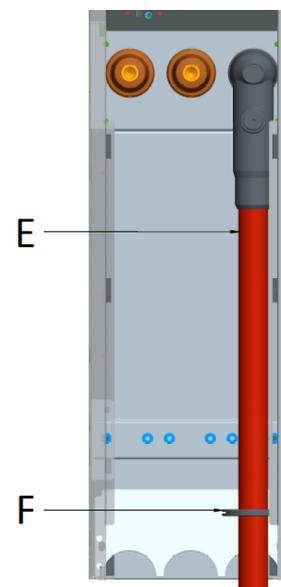

Figure 23: Assembly of the cable connection
- Use a sharp knife to make a number of cuts in the cable grommet (Figure 23 F.)
- Assemble the cable connection (Figure 23 E) according to the supplier's installation instructions.
- Slide the cable grommet (Figure 23 F) over the cable at the proper height.